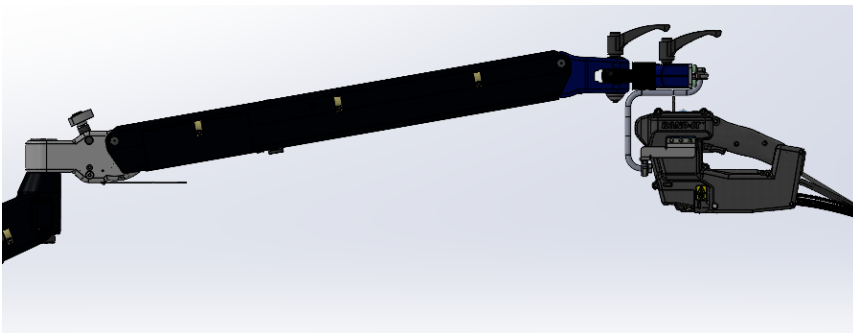

Figure 39
- See Figures 39 & 40 for two examples of articulating arms.